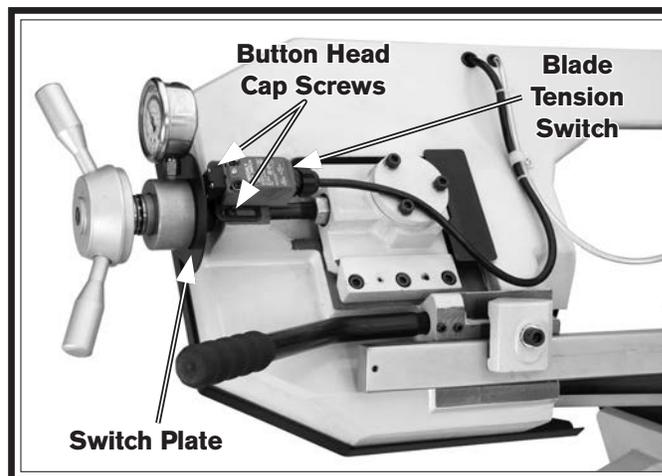

Figure 44. Blade tension limit switch.
- Use a 3mm hex wrench to loosen the two button head cap screws that secure the blade tension switch bracket shown in **Figure 44**.
3. Loosen the Phillips head screws that secure the blade travel limit switch shown in **Figure 44**.